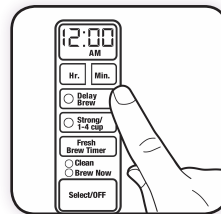

Figure 6
- 1 Press the Delay Brew button. The Delay Brew indicator light will flash and the digital clocks flashes "12:00 AM". To set desired brew time, press the Hour and Minute buttons. (Figure 6)